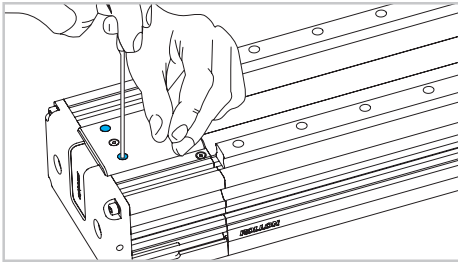

Fig. 4
- 3) Remove the cover from the idle head loosening only the 4 outer screws. (Fig. 4).